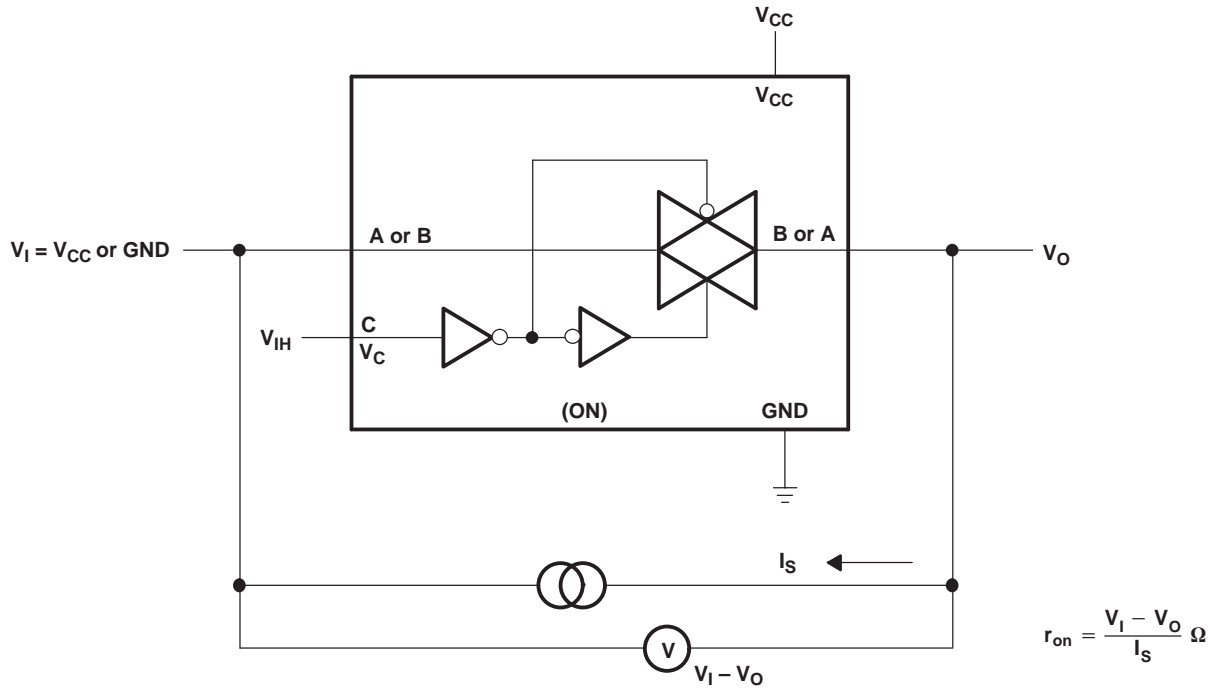

Figure 1. On-State Resistance Test Circuit
(1) All unused inputs of the device must be held at VCC or GND to ensure proper device operation. Refer to the TI application report, *Implications of Slow or Floating CMOS Inputs*, literature number SCBA004.
(2) The data was taken at CL = 15 pF, RL = 2 kΩ (see Figure 1).
(3) The data was taken at CL = 30 pF, RL = 500 Ω (see Figure 1).
(1) ta = 25°C